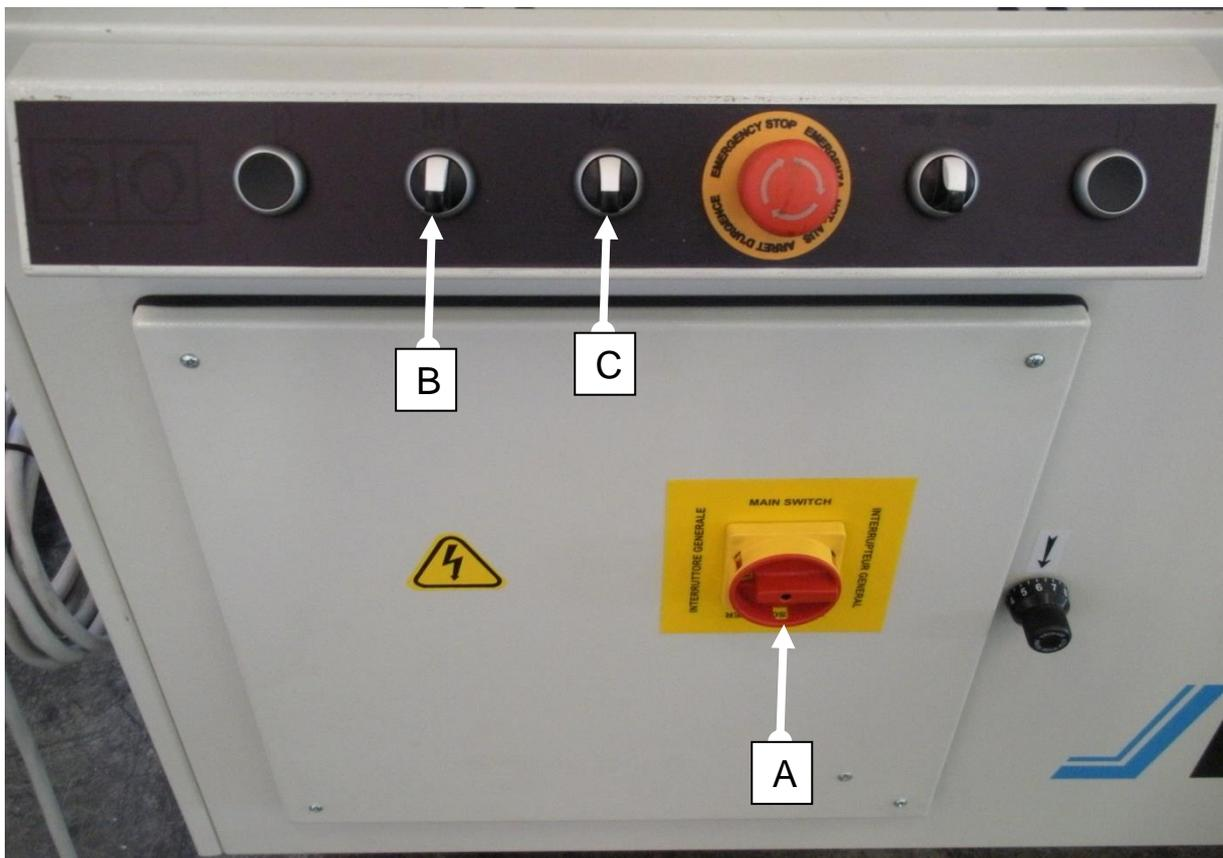

FIG.5
- Turn the main switch A on (Fig.5)
- Turn selector B (Fig.5) automatically to start up the horizontal motor.
- Turn selector C (Fig.5) automatically to start up the vertical motor